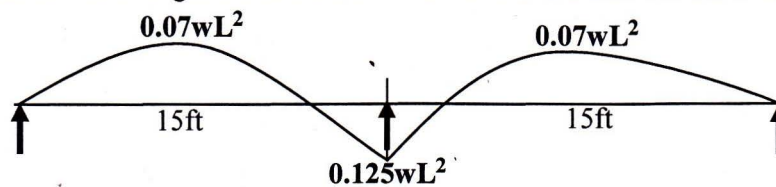

Figure:02
2. (a) Draw the stress distribution and strain distribution diagrams for flexure in RC beams at uncracked, cracked and ultimate conditions. (02)
- (b) Design and make the details of a RC beam carrying a dead load of 1.27 k/ft and service live load 2.15 k/ft as shown in Fig.02. The moment coefficients are also shown in the figure. Use WSD method. (08)